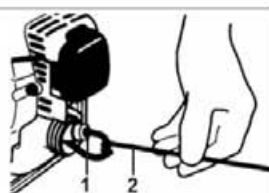

Fig.PP17
5. Use a wire hook to extract the fuel filter from inside the fuel tank (See Fig.PP17).